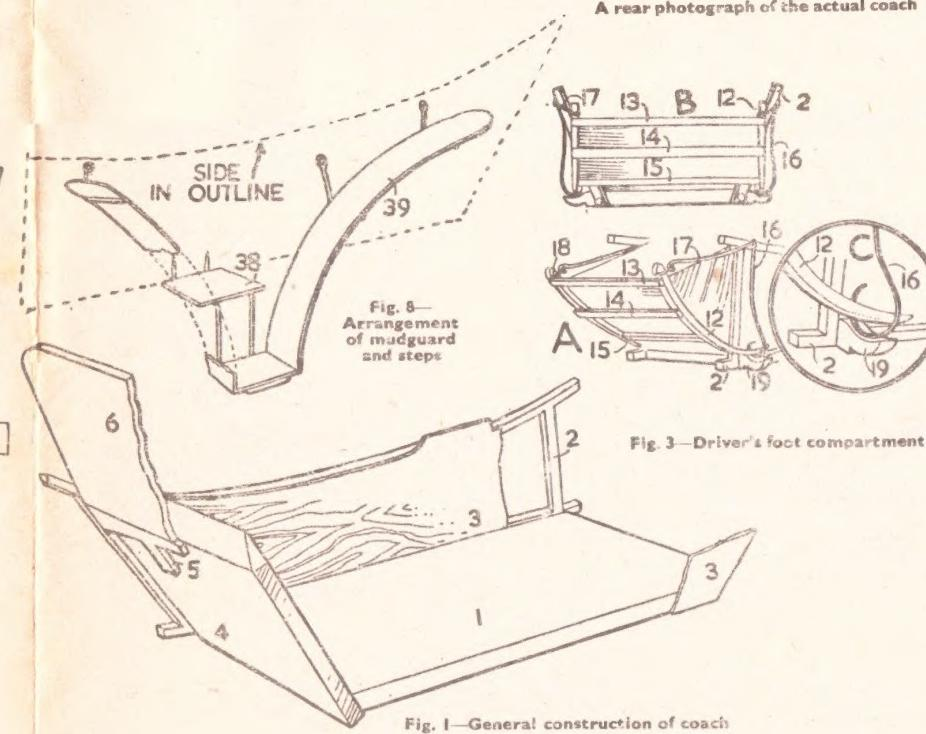

Fig. 1—General construction of coach
Have the completed back ready before you fit in the sides, because this will help when gluing in place to keep the whole solid frame at the right angle, and the whole rigid. A cut-away view at Fig. 1 shows this, where you can also see the canopy back (6) glued to the sloping edge at the top of the main back.